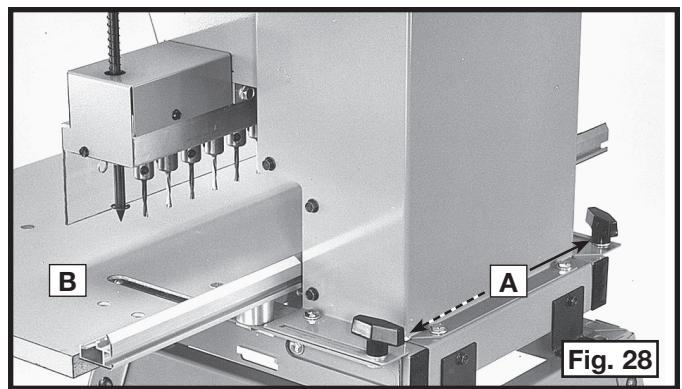
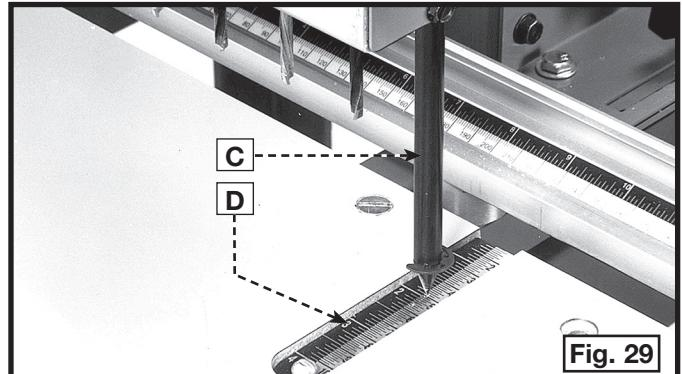

Fig. 28
Fig. 29
Loosen the table lock knobs (A) Fig. 28. Move the table (B) in or out until the index pin (C) Fig. 29 (when pushed down) lines up with the desired mark on the scale (D). Tighten lock knobs (A) Fig. 28.